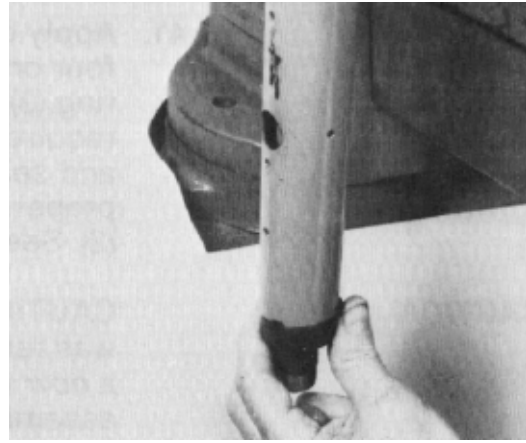

Figure 129
46. Apply a small amount of clean multi-purpose grease on the lip of the seal. Install the seal onto the jacket tube and input shaft (Fig. 129).